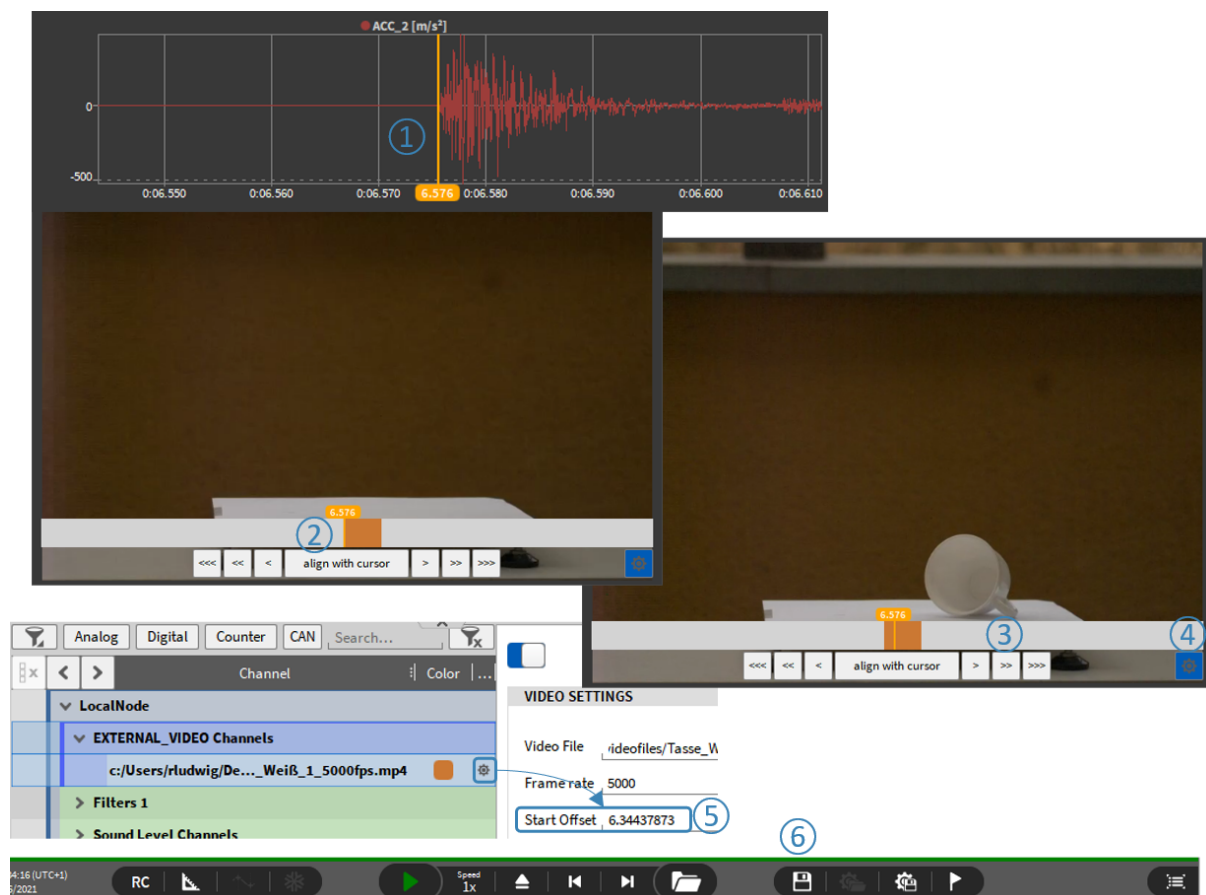

Fig. 7.171: Alignment of sensor and video data
1. Use the Recorder to move the orange cursor to the reference event for data synchronization (see ① in Fig. 7.171)
2. Press *align with cursor* to move the video start to the orange cursor position for a rough time adjustment (see ② in Fig. 7.171)
3. For fine time adjustments, use the <<<, <<, < & >, >>, >>> buttons to align the timeline (see ③ in Fig. 7.171)
4. When finished, the timebar can be hidden (see ④ in Fig. 7.171)
5. The absolute time offset can also be seen in the video's channel setup (see ⑤ in Fig. 7.171)
6. The settings can be saved to the data file (see ⑥ in Fig. 7.171)